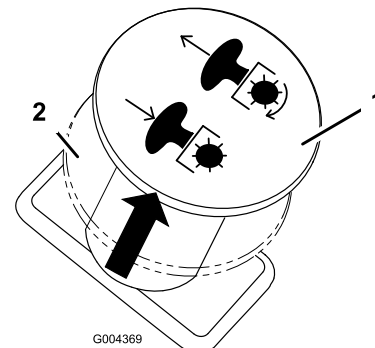

Figure 13
3. Pull out on the blade control switch to engage blades (Figure 13).
Push the blade control switch to Off to disengage the blades (Figure 13).